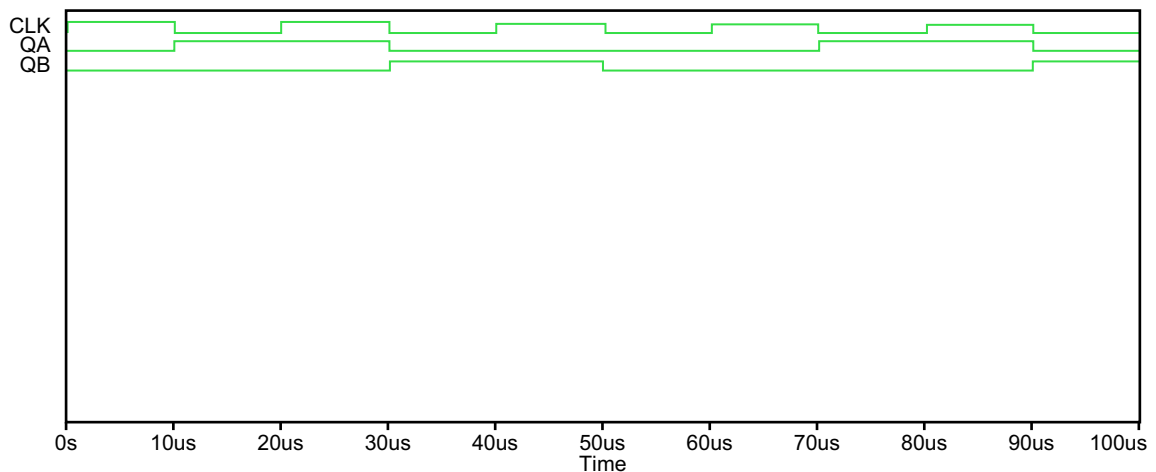

FIGURE 18.8
6. Turn on the cursor and move the cursor along the waveforms. The corresponding logic levels should appear on the Y-axis as in Figure 18.8. Note that the output of the flip-flop only changes on the falling edge of the clock signal. The CD4027 flip-flops are negative edge triggered.